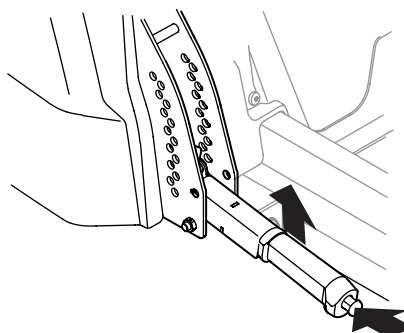

Figure 3-10
3. Use the deck lift handle to raise the deck to its highest position by depressing the button at the end of the handle and pulling upwards. Make sure the latch engages on the pin. See Figure 3-10.